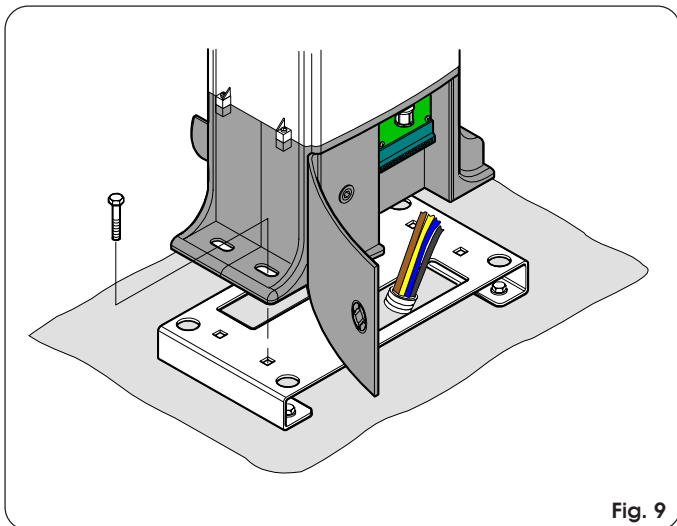

Fig. 9
- Position the operator on the plate, using the supplied screws as shown in Fig. 9.